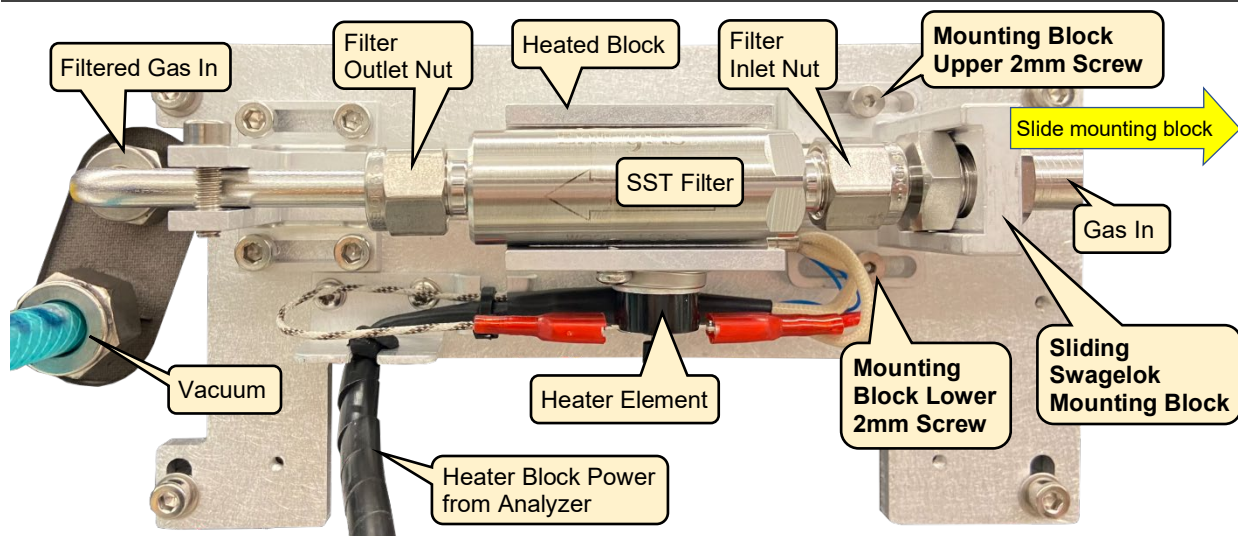

Figure 22: Stainless Steel Filter Mounting Assembly (Filter Housing Removed)
- Using 9/16" and 11/16" open-end wrenches (Figure 22), loosen the right (inlet side) nut *while sliding the **Swagelok Mounting Block** to the right for clearance*, then hand turn the 9/16 nut to remove it completely from the filter inlet.
2. Carefully align and hand-tighten the left (outlet) nut to be sure it is threaded correctly, then tighten the nut one flat (60 degrees) turn using the 11/16" and 9/16" open-end wrench (Figure 22).